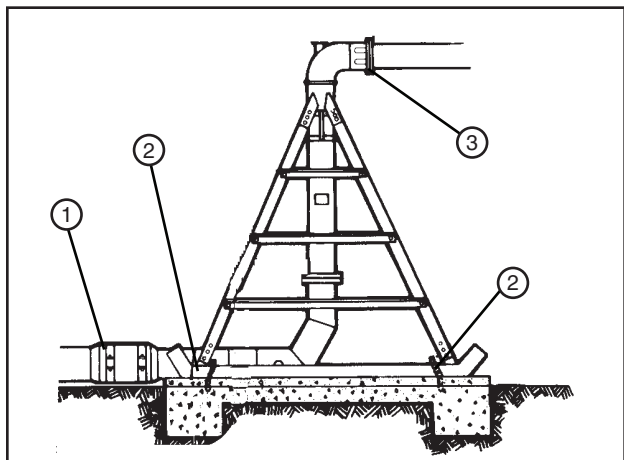

Figure 44-2 1. Water Supply Line 3. Pivot Flex
8. Disconnect the water supply line from lower riser. See figure 44-2.
9. Remove anchor chains securing skid pivot to pivot pad. See figure 44-2.